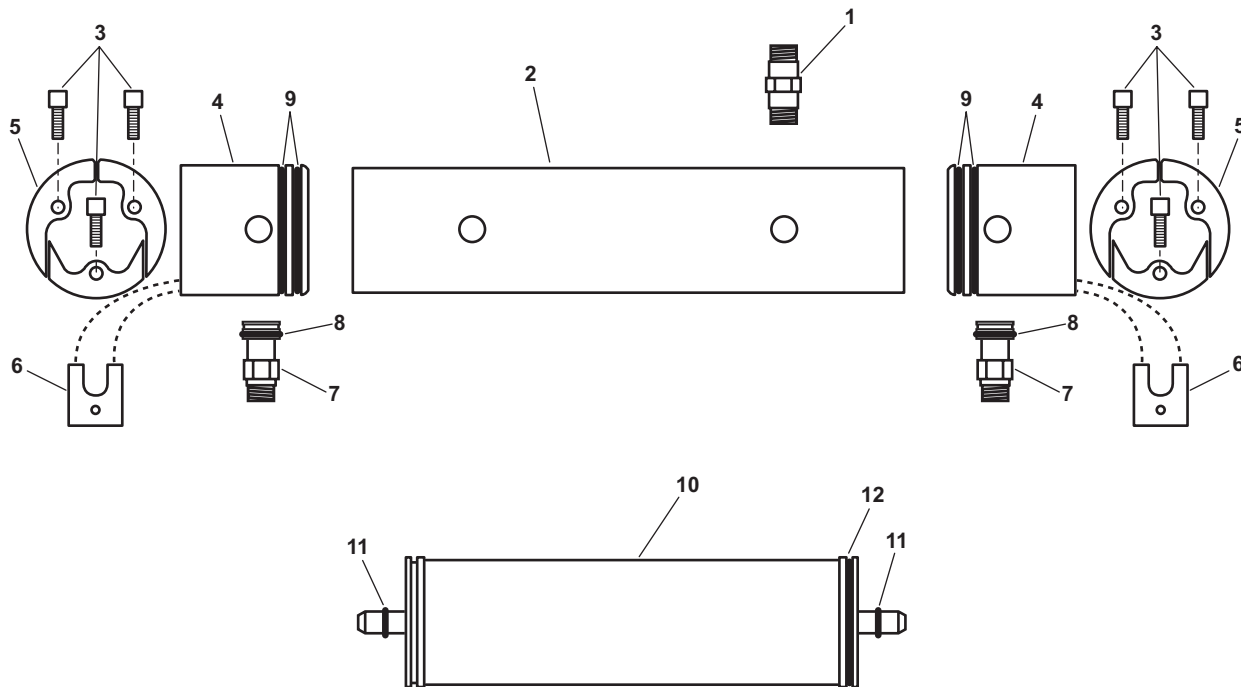

Figure 3. RO Membrane and Vessel Subassembly Repair
2. Remove the product water fitting (figure 3, item 1) from the high pressure vessel (figure 3, item 2).
3. Remove the three allen head screws (figure 3, item 3) from each end of the high pressure vessel (figure 3, item 2).
4. Push inward on each end plug (figure 3, item 4), and remove the three piece segment ring (figure 3, item 5) from each end of the high pressure vessel (figure 3, item 2).
5. Remove the high pressure fitting retainer (figure 3, item 6) from each end of the high pressure vessel (figure 3, item 2).
6. Remove the high pressure fitting (figure 3, item 7) and O-ring (figure 3, item 8) from each end of the high pressure vessel (figure 3, item 2). Discard the O-ring.
7. Loosely install the three allen head screws (figure 3, item 3) into each end plug (figure 3, item 4) inside the high pressure vessel (figure 3, item 2).
8. Use the three allen head screws (figure 3, item 3) as a handle to remove the end plugs (figure 3, item 4) from the high pressure vessel (figure 3, item 2). Discard the two O-rings (figure 3, item 9) on each end plug.
9. Remove the RO membrane element (figure 3, item 10) from the product water side of the high pressure vessel (figure 3, item 2). Discard the RO membrane element, the two product water O-rings (figure 3, item 11) and the brine seal (figure 3, item 12).
10. Use a clean rag and clean water to remove any biological film or debris from the interior of the high pressure vessel (figure 3, item 2).
11. Inspect the interior of the high pressure vessel (figure 3, item 2) for cracks and smoothness. Replace the high pressure vessel if the interior is not crack free and smooth.
12. Clean each end plug (figure 3, item 4) and the high pressure fittings (figure 3, item 7) with clean wiping rags and water.
13. Inspect each end plug (figure 3, item 4) and the high pressure fittings (figure 3, item 7) for damage and wear.
1. Lightly lubricate two new product water O-rings (figure 3, item 11) with silicone lubricant and install the product water O-rings on the new RO membrane element (figure 3, item 10).
2. Insert the brine outlet side of the new RO membrane element (figure 3, item 10) into the product water outlet side of the high pressure vessel (figure 3, item 2).
3. Slide the new RO element (figure 3, item 10) into the high pressure vessel (figure 3, item 2) until the brine seal (figure 3, item 12) is approximately 4 inches (102 mm) past the inside lip.
4. Lightly lubricate four new O-rings (figure 3, item 9) and install two new O-rings on each end plug (figure 3, item 4).
5. Push each end plug (figure 3, item 4) into the high pressure vessel (figure 3, item 2), ensuring that the high pressure ports, and the product water port, on the RO membrane (figure 3, item 10) are aligned with their respective holes in the high pressure vessel.
6. Continue to push each end plug (figure 3, item 4) into the high pressure vessel (figure 3, item 2) until the segmented ring grooves are exposed at each end of the high pressure vessel.
7. Verify that the high pressure ports and the product water port are still aligned with their respective holes in the high pressure vessel (figure 3, item 2).
8. Lightly lubricate two new O-rings (figure 3, item 8) with silicone lubricant, and install an O-ring on each high pressure fitting (figure 3, item 7).
9. Install a high pressure fitting (figure 3, item 7) with new O-rings (figure 3, item 8) in the high pressure ports at each end of the high pressure vessel (figure 3, item 2), and secure each in place with a high pressure fitting retainer (figure 3, item 6)
10. Wrap the male threads of the product water fitting (figure 3, item 1) with three layers of antiseizing tape.
11. Install the product water fitting (figure 3, item 1) on the high pressure vessel (figure 3, item 2). Tighten until two or three threads are exposed from the end plug (figure 3, item 4). Use no tools, and do not over tighten.
12. Install a three piece segment ring (figure 3, item 5) in each end of the high pressure vessel (figure 3, item 2) and secure each of the six segments in place with three allen head screws (figure 3, item 3) at each end.